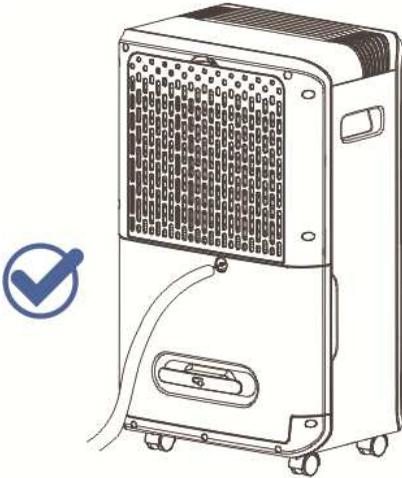

Fig. 2
2. Remove the water plug from the continuous drain hole at the back of the machine (Fig. 2)